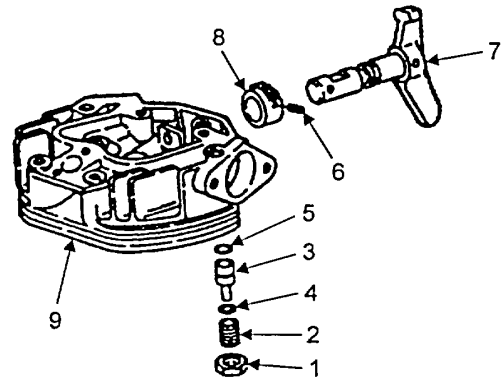

FIGURE 5-23. DECOMPRESSION MECHANISM
a. Install pinion (Figure 5-23, Item 8) in cylinder head (9). Gear teeth go toward the inside and no-teeth area of the pinion at the bottom.
b. Insert decompression shaft (7) through cylinder head (9) and into pinion (8).
c. Align holes in pinion (8) and decompression shaft (7). d. Install roll pin (6).
e. Install new preformed packing (5) on pin (3).